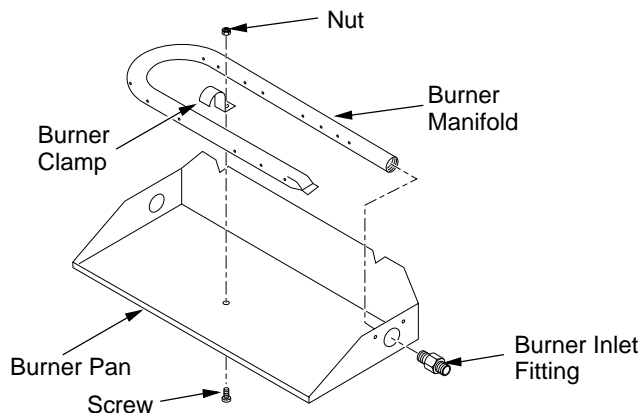

Figure 7 - Installing Burner
3. Unscrew burner inlet fitting from burner manifold (see Figure 7).